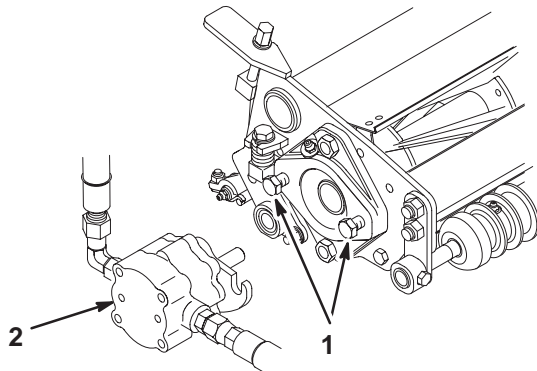

Figure 11
- Assemble the mounting capscrews for the reel drive motor to each cutting unit. Leave approximately 1/2 in. (13 mm) of threads exposed on each mounting capscrew (Fig. 11).
- Coat the spline shaft of the motor with clean grease and install the motor by rotating the motor clockwise so that the motor flanges clear the studs. Rotate the motor counterclockwise until the flanges are encircling the studs. Tighten the mounting capscrews (Fig. 11).